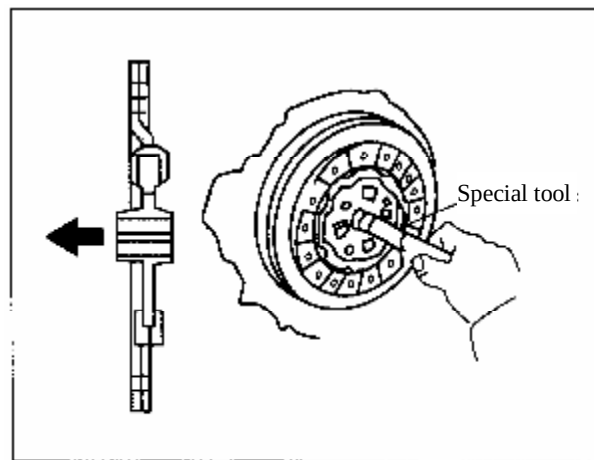
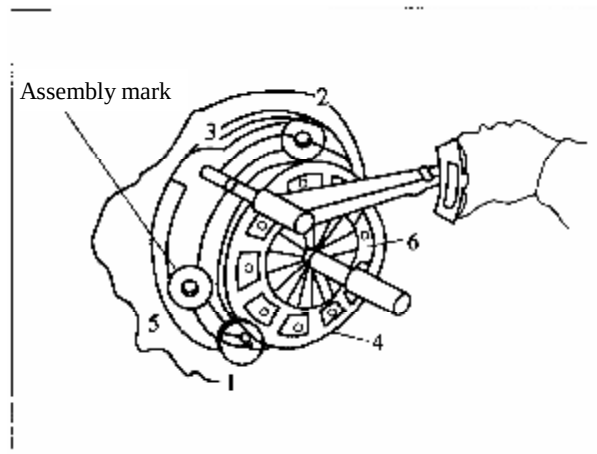

Figure 3-65 Installation of Clutch
Figure 3-66 Installation of Clutch
3.10.4 Installation of clutch: use the tools same as that used on inputshaft of transmission to install the clutch driven plate onto flywheel. Align the mark on clutch housing with the mark at outer edge of flywheel, and then evenly tighten the bolts. The tightening torque is 28~35N·m (see Figure 3-65, Figure 3-66).